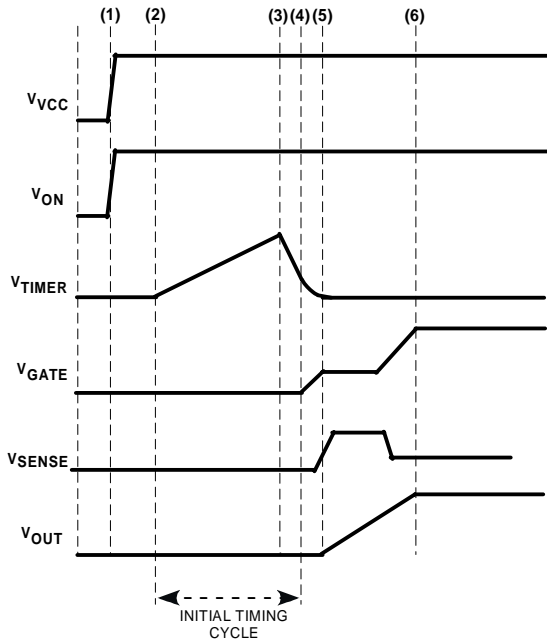
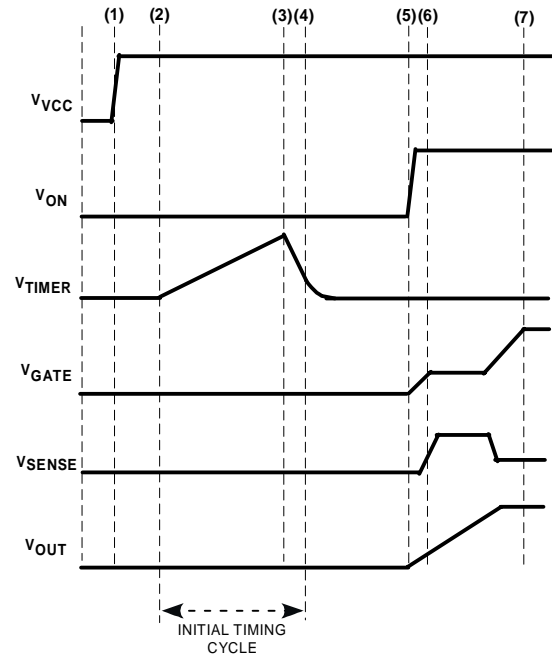

Figure 4. Start-up (ON asserts as power is applied)
Figure 5. Start-up (ON asserts after power is applied)
When VCC is first connected to the backplane supply, there is an internal supply (time-point (1) in Figure 4) in the ADM1177 which needs to charge up. A very short time later (significantly less than 1 ms) the internal supply will be fully up and, since the undervoltage lockout voltage has been exceeded at VCC, the device will come out of reset. During this first short reset period the GATE pin is held down with a 25 mA pulldown current, and the TIMER pin is pulled down with a 100  $\mu\text{A}$  current sink.
When the initial timing cycle terminates, the device is ready to start a hotswap operation (assuming ON pin is asserted). In the example shown in Figure 4, the ON pin was asserted at the same time as VCC was applied, so the hotswap operation starts immediately after time-point (4). At this point the FET gate is charged up with a 12  $\mu\text{A}$  current source. At timepoint (5) the threshold voltage of the FET is reached and the load current begins to flow. The FET is controlled to keep the sense voltage at 100 mV (this corresponds to a maximum load current level defined by the value of  $R_{SENSE}$ ). At timepoint (6)  $V_{GATE}$  and  $V_{OUT}$  have reached their full potential and the load current has settled to its nominal level. Figure 5 illustrates the situation where the ON pin is asserted after  $V_{VCC}$  is applied.